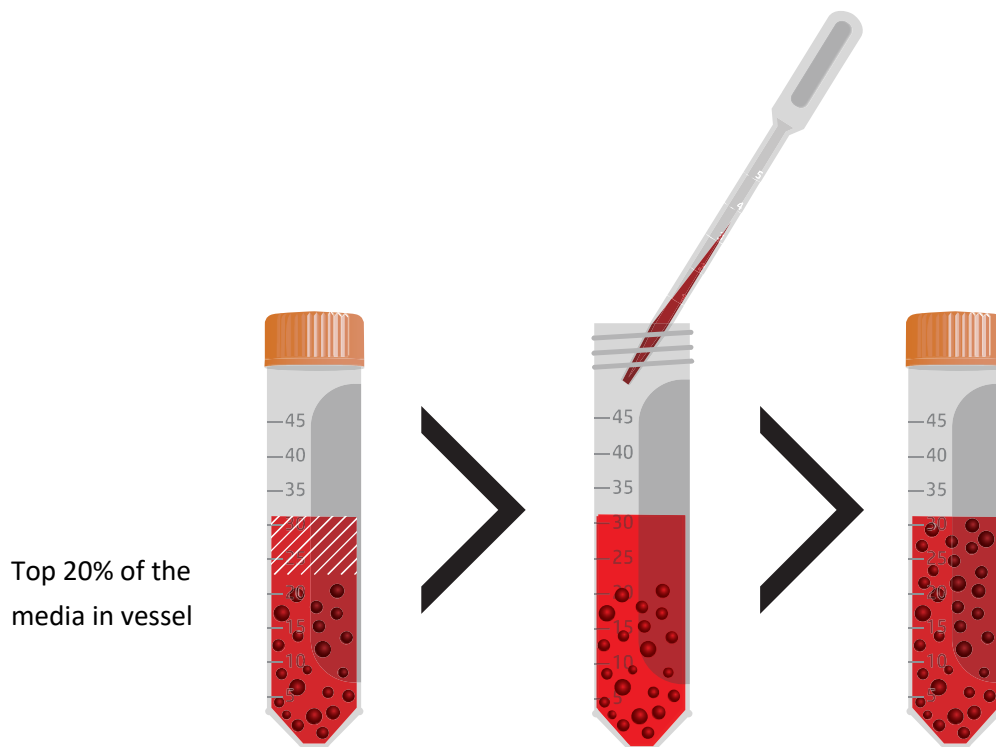

Figure 1. Media replacement using Happy Cell[®] ASM.
- II. When necessary to maintain the same volume of liquid, or if there is insufficient room in the vessel for additional liquid, a small volume of Happy Cell[®] ASM (20% total volume) can be removed and replaced from the surface of the liquid. If you choose this option, ensure that you have not disturbed the cells prior to removing liquid (Figure 1).